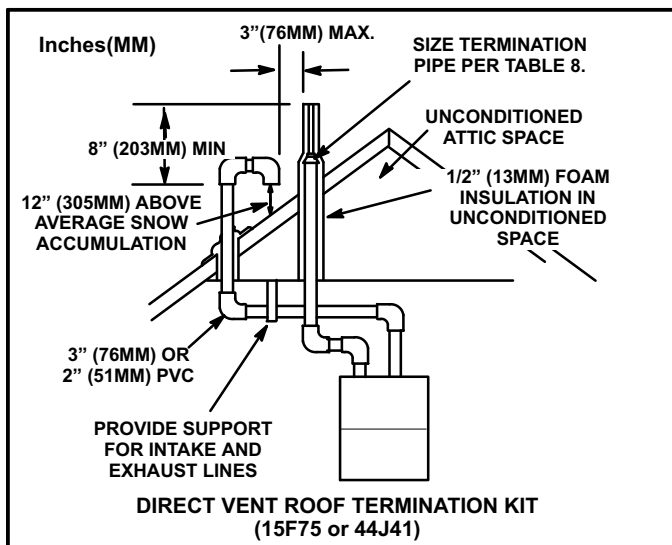

FIGURE 33
Intake and exhaust pipes may be routed either horizontally through an outside wall or vertically through the roof. In attic or closet installations, vertical termination through the roof is preferred. Figures 33 through 47 show typical terminations.
- 3 - On roof terminations, the intake piping should terminate straight down using two 90° elbows (See figure 33).